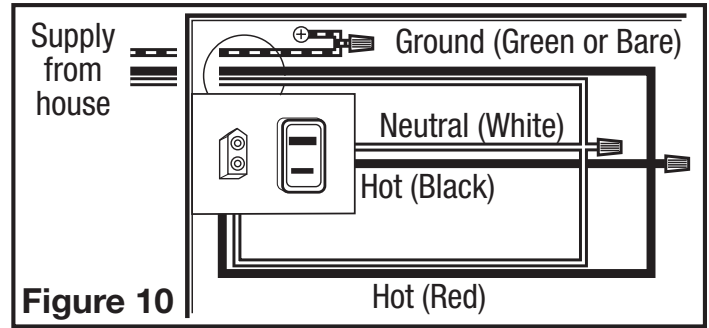

Figure 10
- 3b. From where you have access to inside the fan's junction box, connect the one white wire from the house to both the white wire from the fan's light receptacle and the white wire from the fan's exhaust receptacle. Connect the black wire from the wall switch to both the red wire from the fan's light receptacle and the black wire from the fan's exhaust receptacle. Connect the ground wire from the house to the green wire from the fan's grounding screw (Figure 10). Use approved methods for all connections.